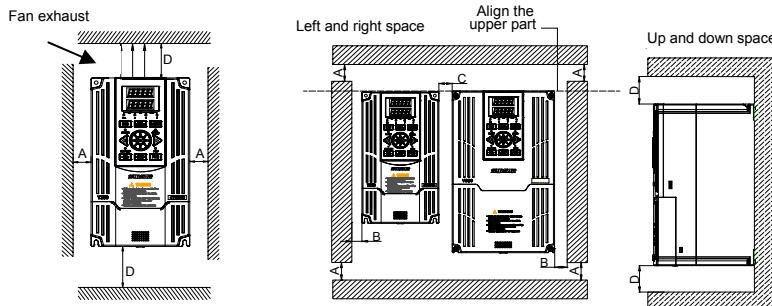

Figure 3-1 Spacing distance for installation
Requirements for installation spacing distance of single frequency inverter are as shown in figure 3-1.
- As shown in Figure 3-1 and 3-2: A≥50mm, B≥30mm, C≥20mm, D≥120mm